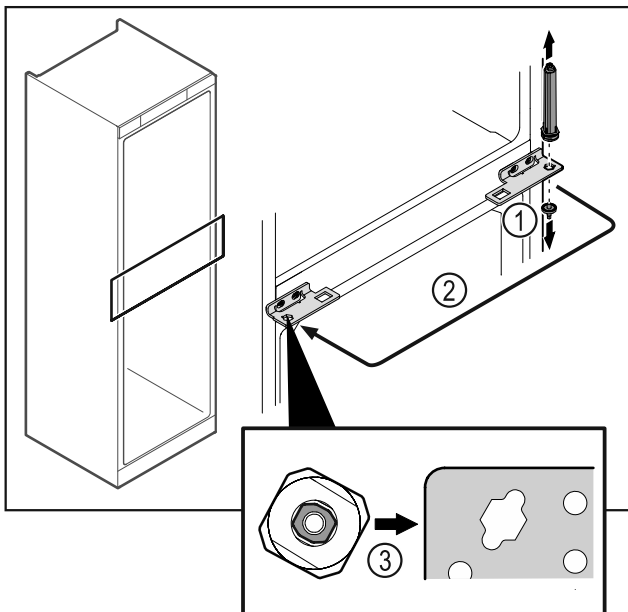

Fig. 48
- ▶ Unscrew the hinge pin Fig. 48 (1).
- ▶ Move the door closing system Fig. 48 (2).
- ▶ When inserting, make sure that the door closing system Fig. 48 (3) is correctly aligned.